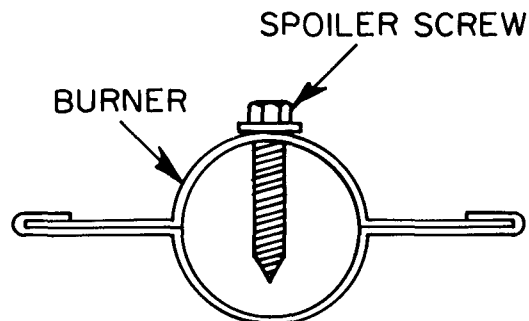

Figure 2 — Spoiler Screw Installation
4. Install spoiler screw in hole located on top side of each burner. Be sure to drive screw in straight. See Figure 2.